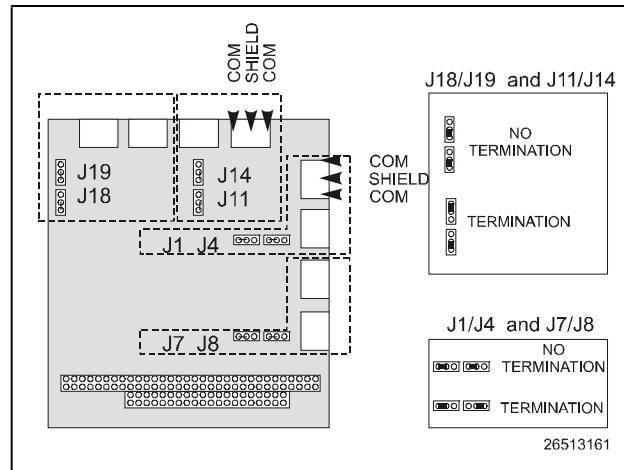

Figure 5-4 - Four-Channel Repeater Hookup
Because the four-channel repeater has two more channels than the standard repeater, the board layout is slightly different than the two-channel model. The connectors for the four channels are on the top and right sides of the repeater board (**Figure 5-4**).
1. Locate the Echelon terminals on the repeater (see **Figure 5-4**). There are two sets of two connectors on the top of the card, and two sets on the right hand side.
3. If a channel of the repeater is at the endpoint of a daisy chain, it must be terminated by setting the channel's termination jumpers. Each channel has a pair of jumpers that can be used for termination. The top two channels use jumpers **J18/J19** and **J11/J14**, while the two channels on the right side of the repeater use jumpers **J1/J4** and **J7/J8**. The locations of these jumpers and how to set them are shown in **Figure 5-4**.